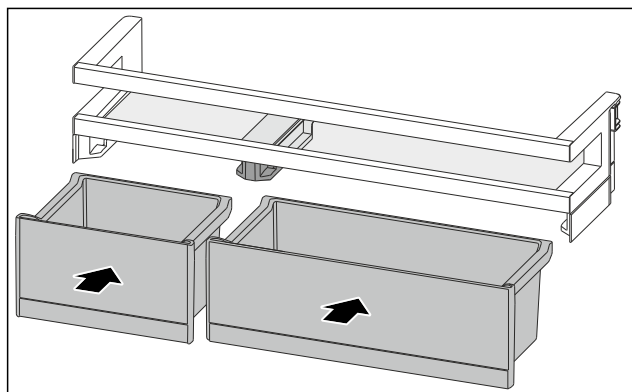

Fig. 98
- Insert the VarioBoxes in reverse order. (see Fig. 98)